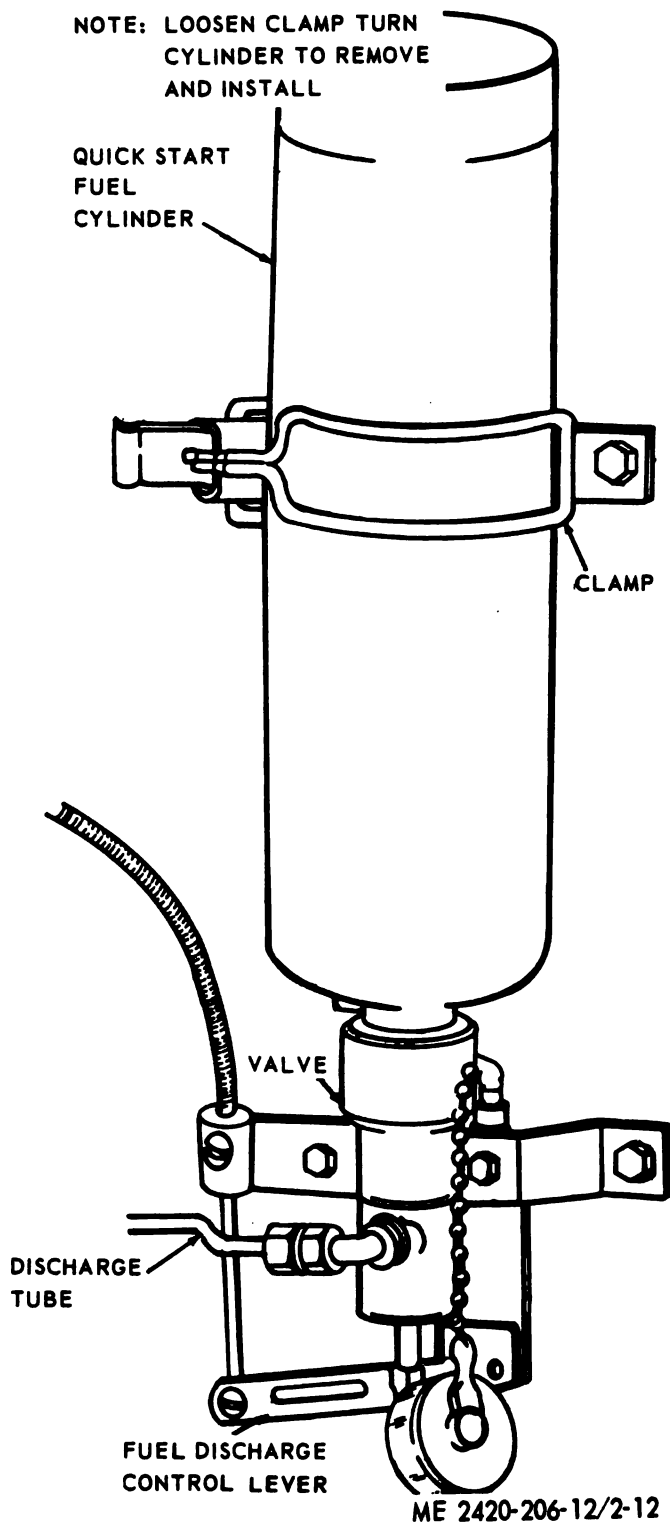

Figure 2-12. Engine starting aid.
a. A starting aid cylinder (fig. 2-12) containing ether under pressure and controlled by quick start knob (fig. 2-7) on instrument panel, is used to start
- c. *Engine starting aid.* Service starting aid as illustrated in figure 2-12.